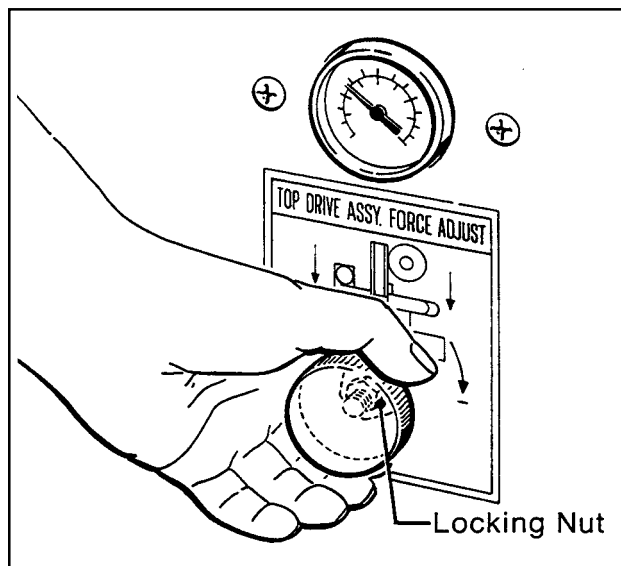

Figure 3-5 – Air Regulator/Gauge, Top Drive Assembly
⑦ Air Pressure Regulator/Gauge, Top Drive Assembly Force Adjustment – Figure 3-5
For boxes which are fully packed with products that support the top flaps, the adjustment of this regulator is not critical since the boxes can support the pressure of the upper frame (drive belts) at a wide range of regulator settings. However, if under-filled or fragile boxes are sealed, this regulator can be used to set the upper frame pressure to a minimum that is still adequate to positively convey the box and to prevent damage of boxes. The regulator setting can be locked by securing the lock nut on the regulator shaft as shown in Figure 3-5.